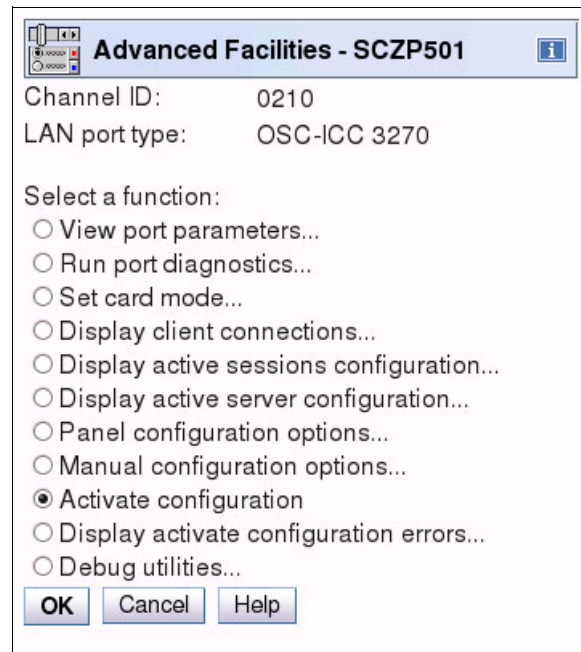

Figure 14-86 OSA Advanced Facilities: activate configuration
3. After you validate the source file, activate the configuration by selecting **Activate configuration** in the Advanced Facilities window (Figure 14-86).